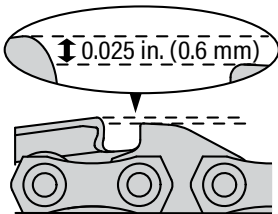

Fig. 13A
1. The depth gauge should be set to a clearance of 0.025 in. (0.6 mm) (Fig. 13A). Use a depth-gauge tool (sold separately) to check the clearance.